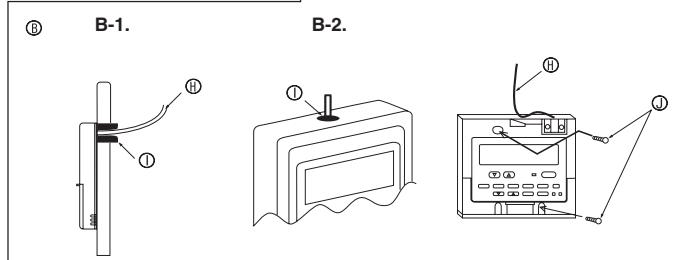

Fig. 6-3
- (2) Seal the service entrance for the remote controller cord with putty to prevent possible invasion of dew drops, water, cockroaches or worms. (Fig. 6-3)
#### [Fig.6-3]